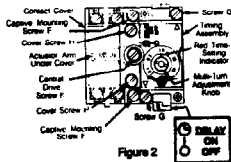

Figure 2
- 1.5 Time-delay mode is shown at lower end of timing assembly. Figure 2. If opposite mode is desired, convert per following steps.
- 2.1 Loosen the two captive slotted head screws G, identified by the symbol Δ. Figure 2. Do not remove the Phillips head screws with black centers.
- 3.1 Loosen captive cover screws H and remove cover. Figure 2.